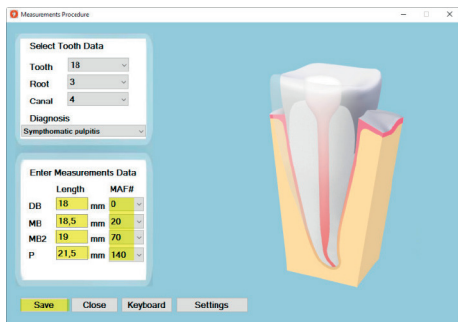
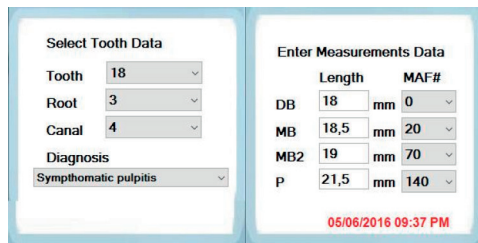

Fig. 22
Fig. 23
- Visualization of measuring data can be saved as measurement jpg format file data picture (Fig. 23).
12. After the apical constriction is determined, the length from the endodontic file tip to the rubber marker on the file will indicate the true measurement of the apical constriction (the working length). This distance should be recorded on the dentist's ruler and written in the corresponding window of the dental root canal (Fig. 22). To get an accurate working length, the dentist should carefully choose the reference point on the tooth top which touches the rubber marker. Enter measured working length data in the table and numbers of used Master Apical File (MAF) numbers in the right column. Press the **Save** button to save picture file with measurement data (Fig. 23).
By default settings current apex working length data (jpg format) file (Fig. 23) will be saved in the *C:\Apex_data\Apex_Pic* directory.
Warning: Saving a new apex working length data entry (Fig. 22) the previous apex working length data (jpg format) file (Fig. 23) will be deleted from *C:\Apex_data\Apex_Pic* folder.